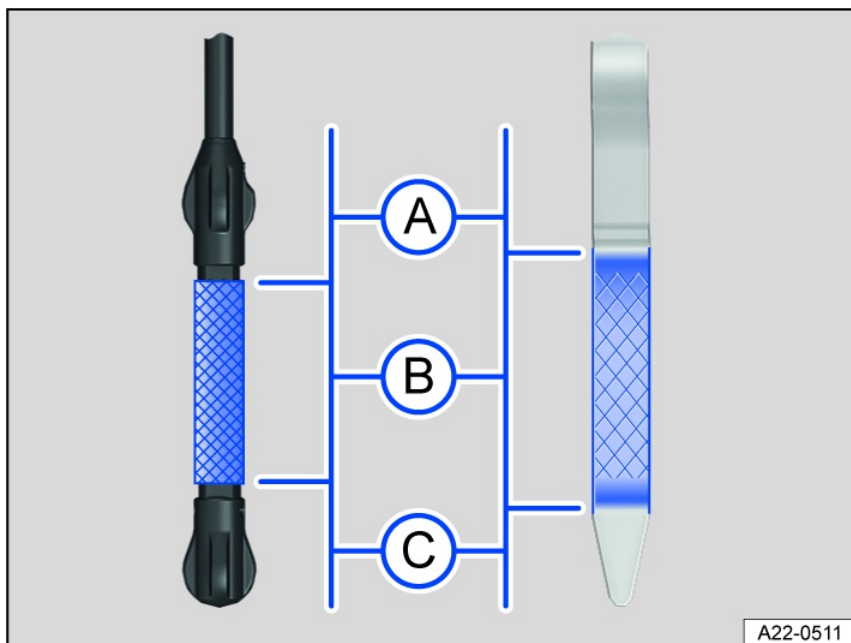

Fig. 162 Engine oil level markings on the oil dipstick (versions).
3. Remove the dipstick again and read the oil level on the dipstick as described below *fig. 162*:
When you are done adding oil, the oil level should be in the center of area *fig. 162 B*. The engine oil level must not be in the area *fig. 162 A*.
5. If you accidentally add too much engine oil and the engine oil level is in area *fig. 162 A*, do not start the engine ⇒ ⚠. Contact an authorized Volkswagen dealer or authorized Volkswagen Service Facility for assistance.